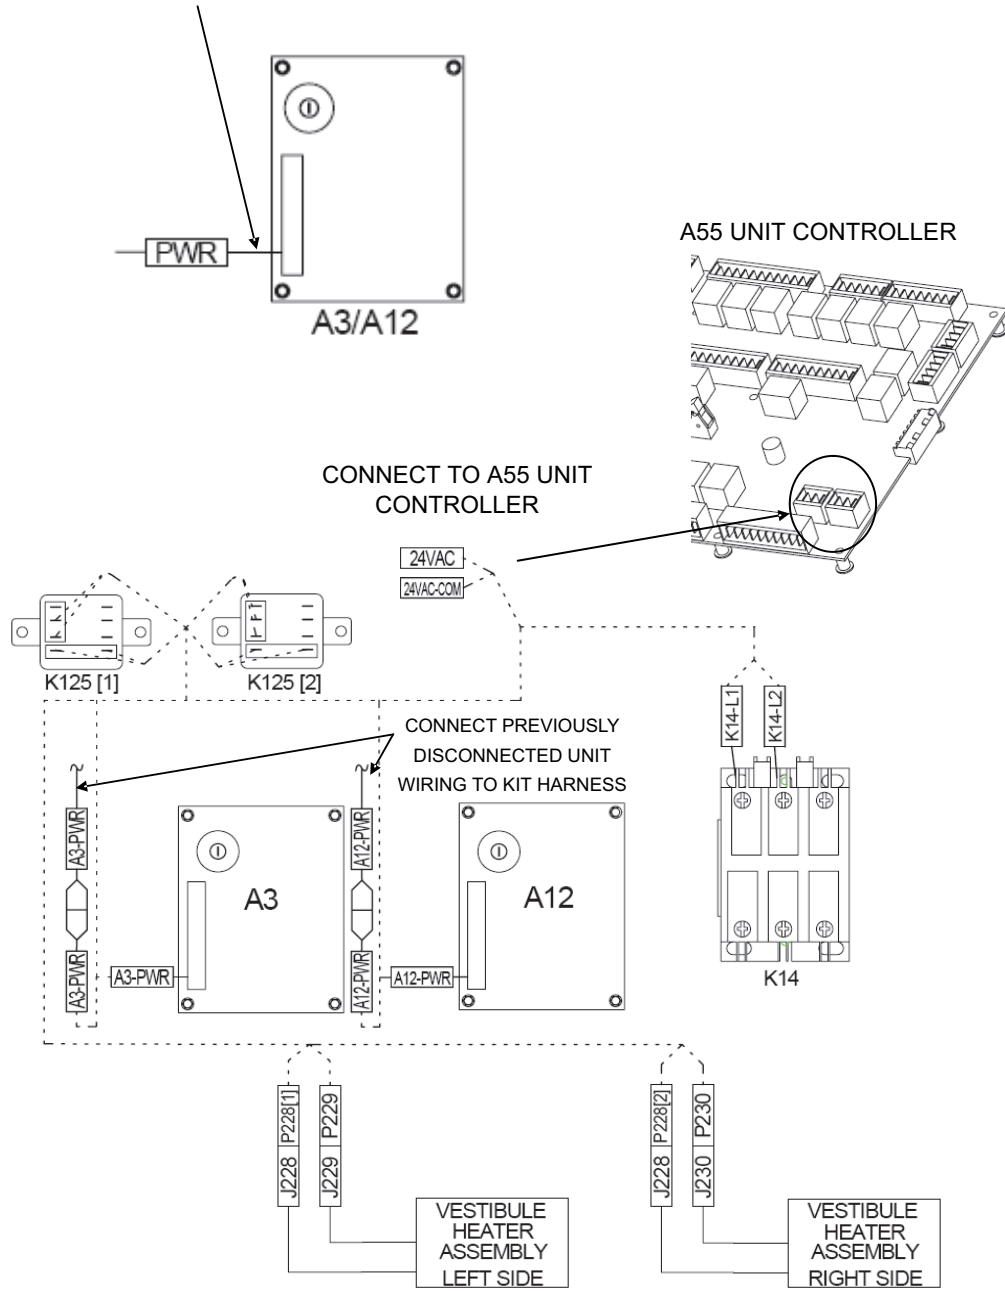

FIGURE 10
- 5- Make wire connections as shown in figure 10.